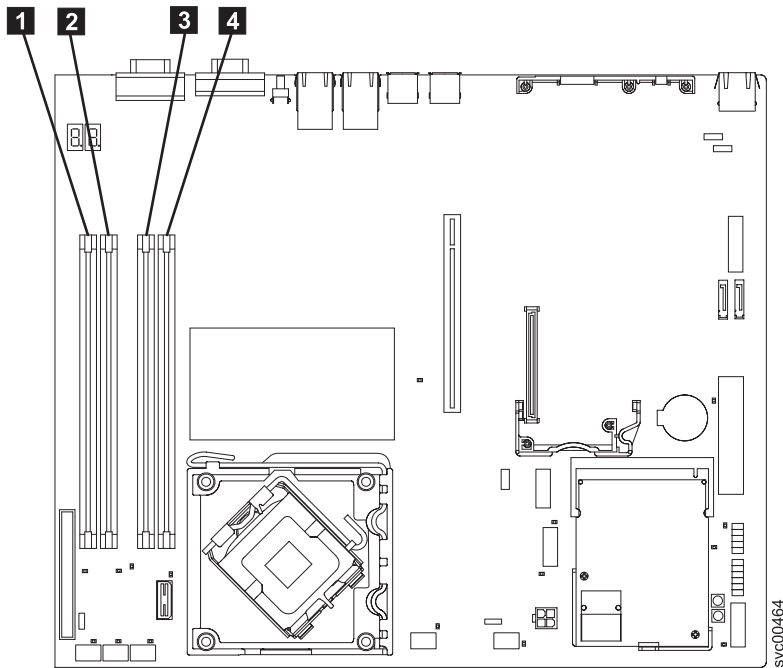

Figure 92. Locating the SAN Volume Controller 2145-8A4 memory modules
- SAN Volume Controller 2145-8A4: These modules are numbered **1** through **4**, as shown in Figure 92 on page 110.